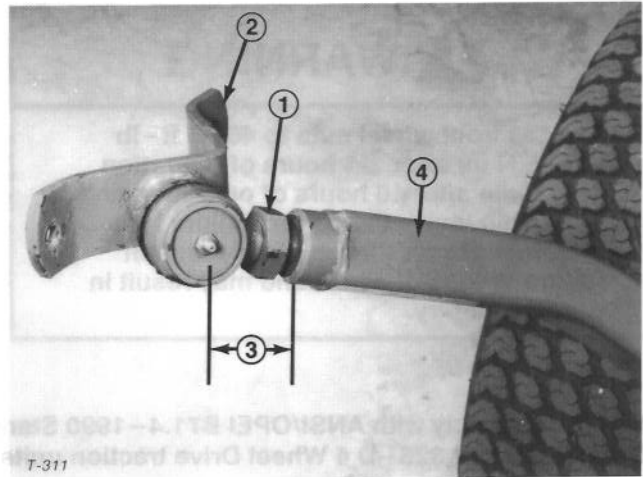
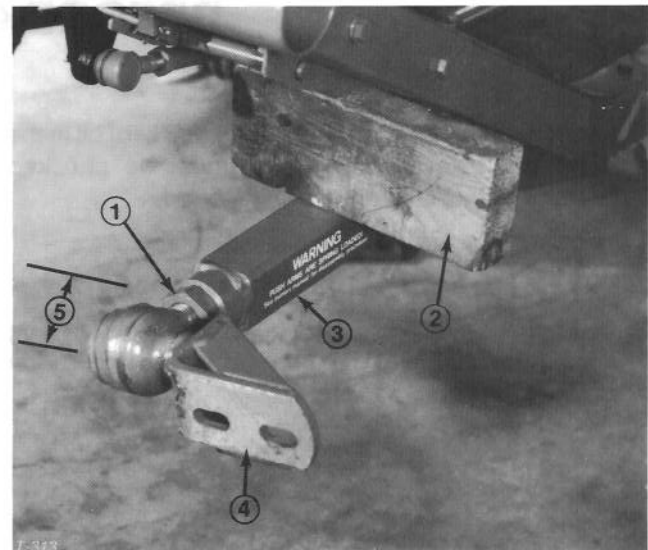

Figure 15
Figure 16
2. Screw ball joint into right hand push arm until center of ball joint is 2-3/8 inches (60 mm) away from front of push arm (Fig.15). Do not tighten jam nut.
4. Have a helper push down on the left push arm. Then insert a 2 x 4 in. (51 x 102 mm) block of wood between the frame and top of the push arm (Fig. 15). Screw ball joint into left hand push arm until center of ball joint is 2-3/8 inches (60 mm) away from front of push arm (Fig.16). Do not tighten jam nut.